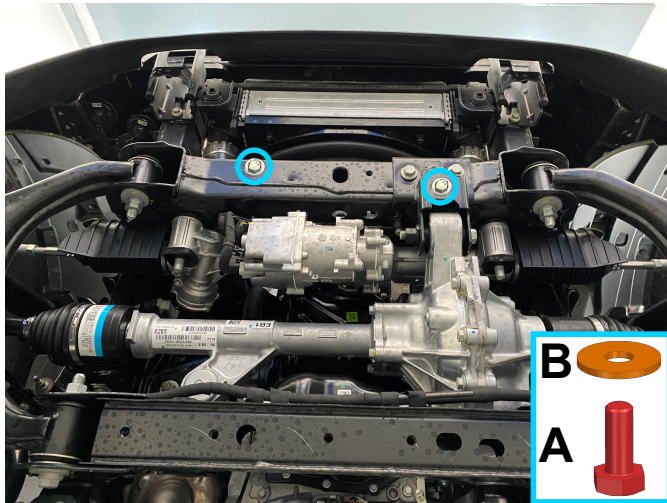

Fig. 1
1. Attach bolts M10x25 (item A) and washers 10 (item B), as shown in fig.1.